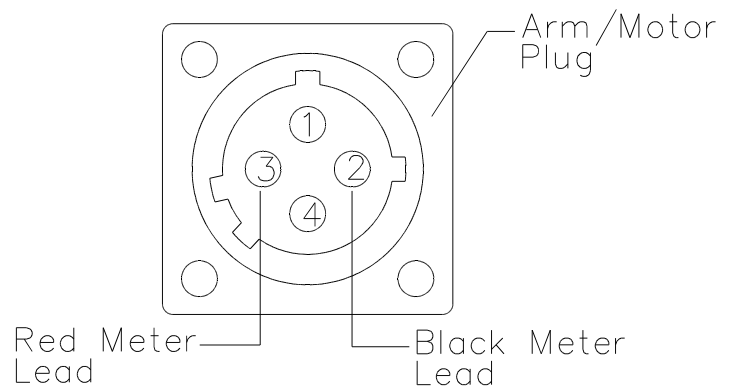

Figure 9
2. Put the Black meter lead into the common receptacle and the red meter lead into the Voltage receptacle of the meter. (See Figure 9.)